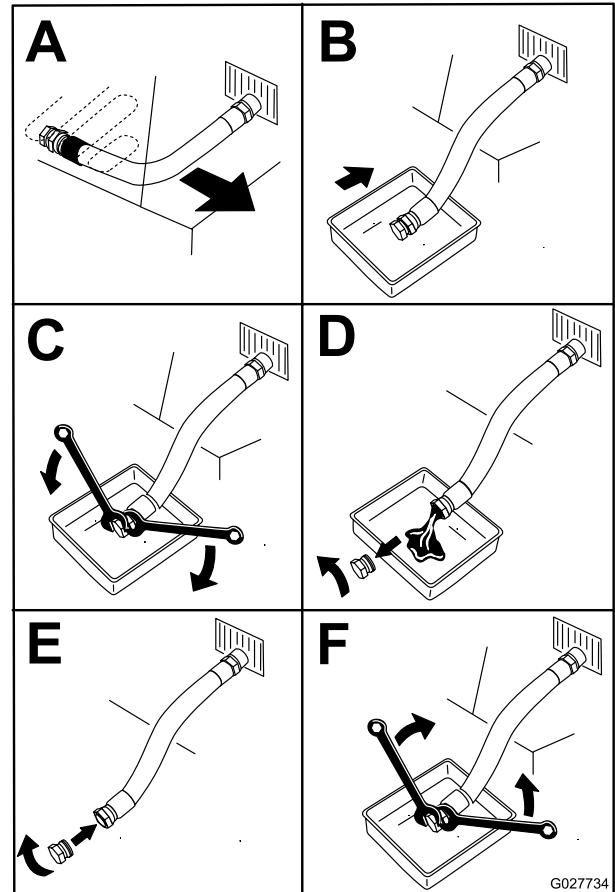

Figure 55
- Shut off the engine, remove the key, and wait for all moving parts to stop before leaving the operating position (Figure 55).